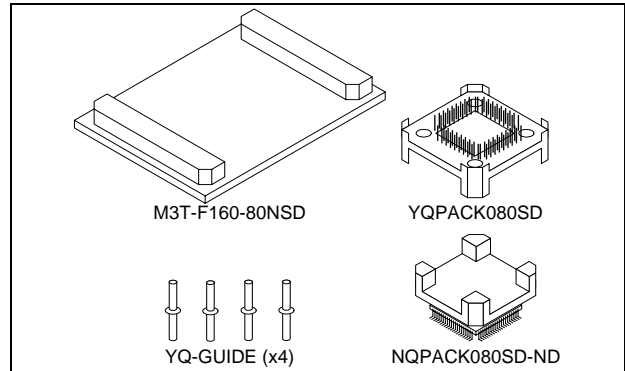

Figure 1 Package components of the M3T-F160-80NSD
2. Package Components (See Figure 1)